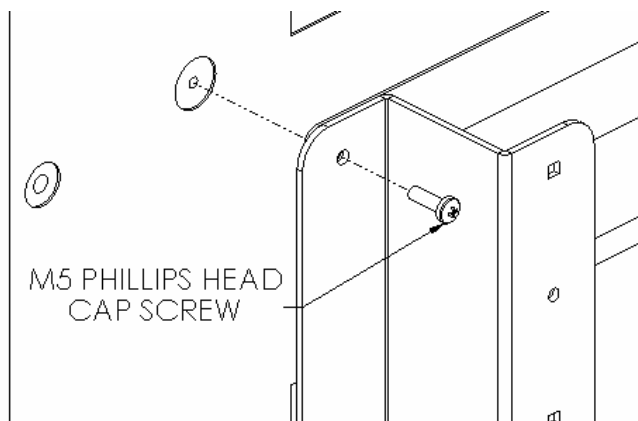
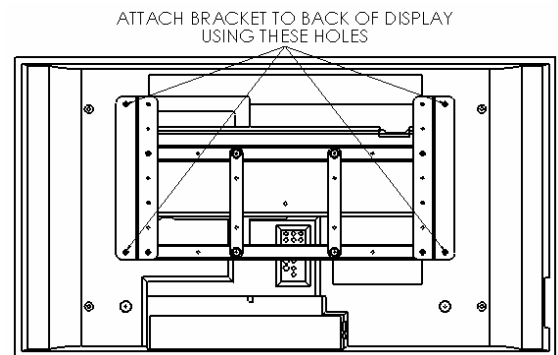

Figure 6
Figure 7
4. **Interface Installation:** Using M5 screws, secure side brackets to display (see Figure 6 & Figure 7). Do not over tighten screws.